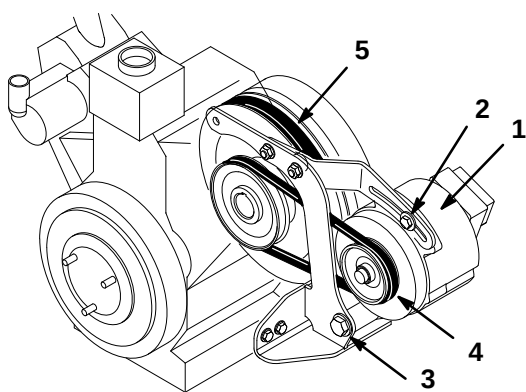

Figure 54
3. Loosen both upper and lower alternator bolts to allow alternator to rotate and loosen belt (Fig 54).
4. Remove belt from pulley, alternator and over clutch pulley (Fig 54).
6. Rotate alternator out away from engine and tighten lower and upper alternator bolts (Fig 54).